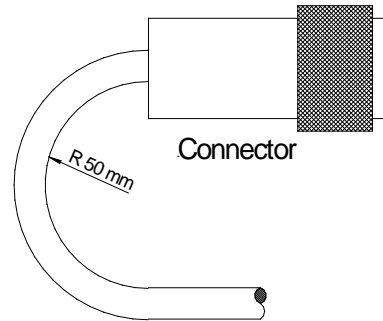

Fig.6: Least bending radius
- Note the least bending radius of the cable, see figure 6.